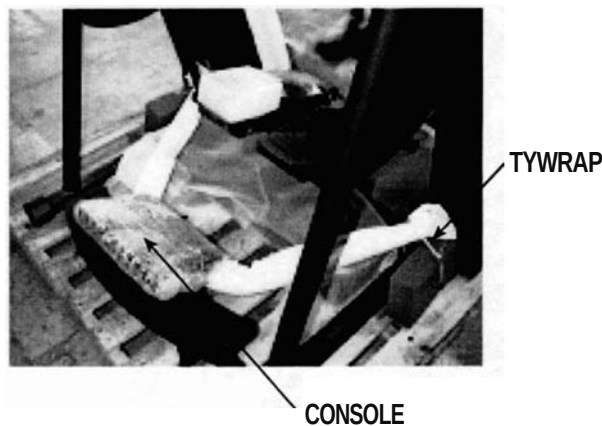

Figure 3: Tywrap Location
1. Cut each tywrap that secures the console handlebar to the rear support bars (see Figure 3). Remove the foam protection from each side of the handlebar. Lift the handlebar out from under the pedals. Set the handlebar with console aside. Remove the step cover from under the pedals and set the cover aside.